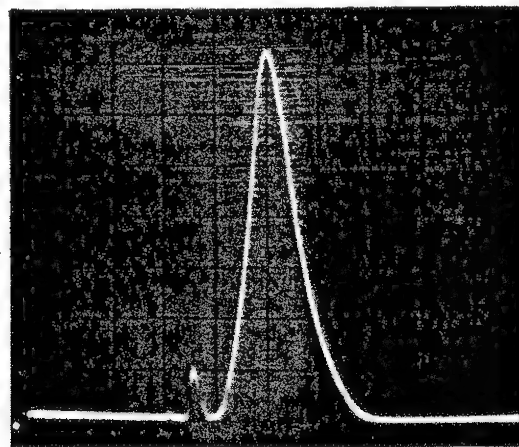

Figure 5-6. RF Level Checks Typical Waveform
- a. Connect the Spectrum Analyzer RF INPUT to the 500 MHz output connector on the A4A4 assembly and tune the analyzer to 500 MHz. Set the analyzer scan width to 50 MHz per division and other analyzer controls for a clear display (see Figure 5-6).